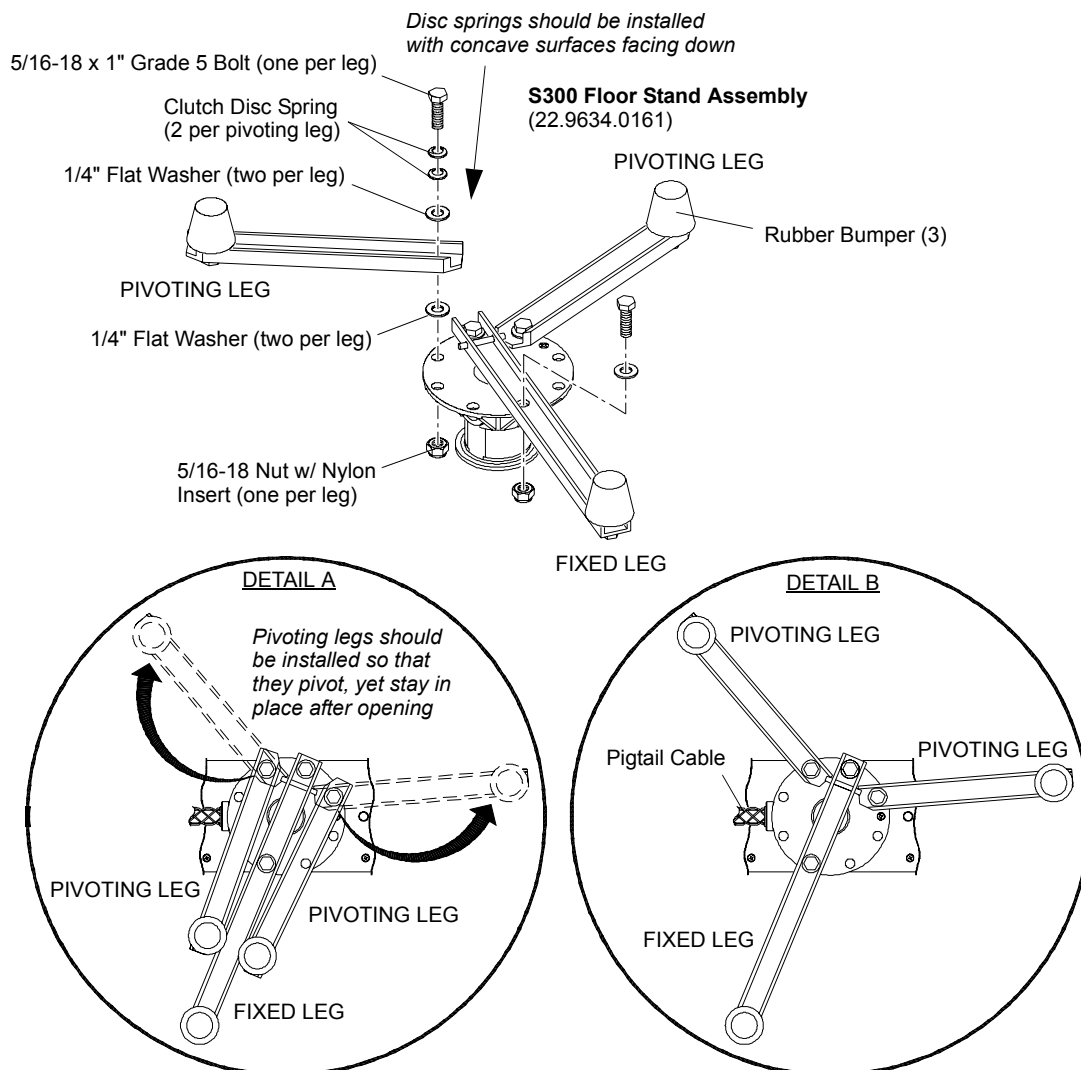

Figure 2-5: Installing Floor Stand
The VL5+™ Series Wash Luminaire may be mounted in an upright floor position using a Series 300™ floor stand. The floor stand (22.9634.0161) includes all necessary hardware as shown in **Figure 2-5**.
- Step 1. Orient pigtail cable as shown in **Figure 2-5** DETAIL B and rotate pan tube accordingly.
- Step 3. Tighten nuts and bolts until there is proper tension: just enough so pivoting legs stay in place, but not so much that the legs don't pivot. See **Figure 2-5** DETAIL A.